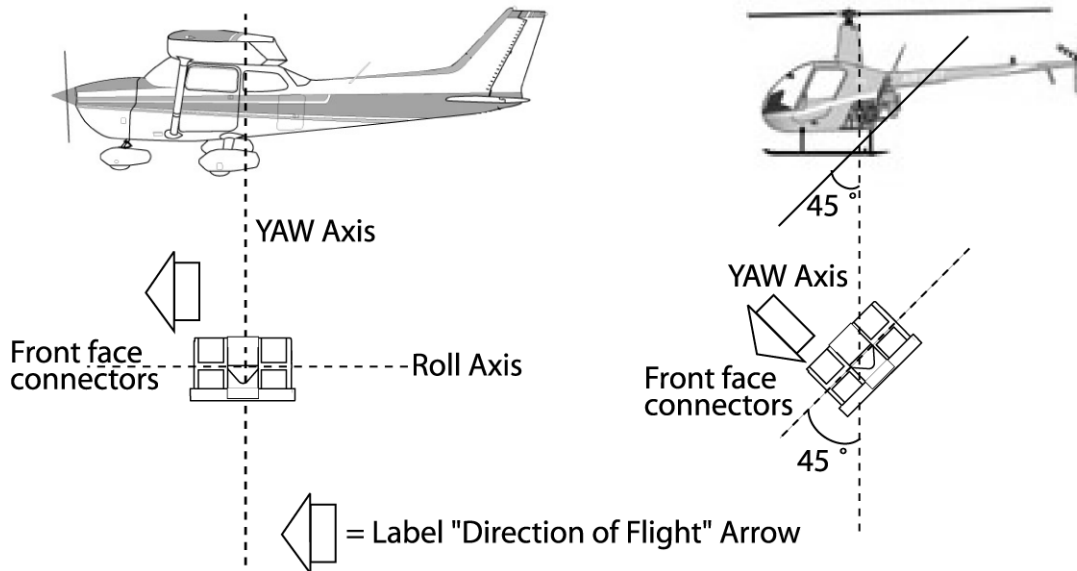

Figure 202: KANNAD 406 AF-COMPACT, axis of installation
1. Mount the transmitter on the bracket "Flight direction" arrow pointed towards the front of the aircraft (Figure 202: KANNAD 406 AF-COMPACT, axis of installation).